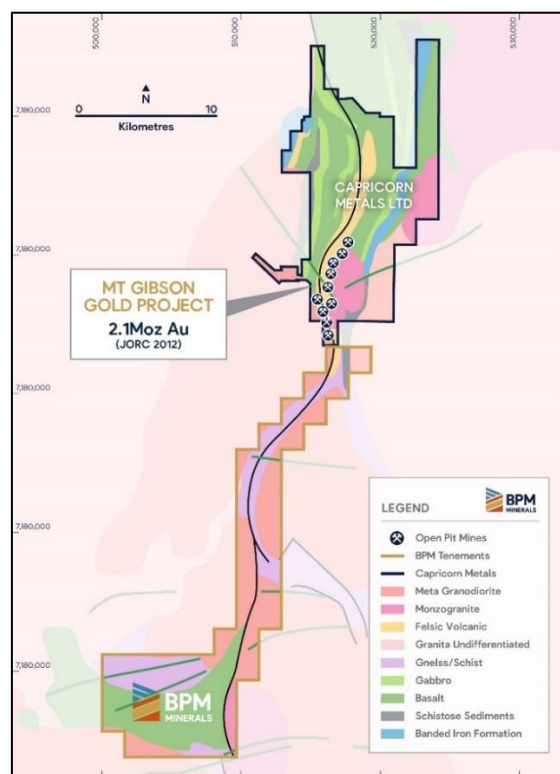

Figure 6 - BPM Minerals Claw Project, directly abutting the Capricorn Metals Mt Gibson Gold Project.
- Claw directly abuts Capricorn Metals 2.1Moz Gold Deposit ² (Fig. 6) with an 81,000 metre Resource definition drill program currently underway.